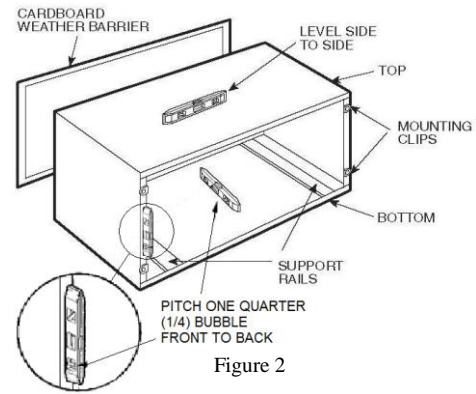

Figure 2
Step 3 Leveling Sleeve — Place level in locations shown in Figure 2. Sleeve must be mounted level side to side and a 1/4 bubble tilt front to back. This allows for proper condensate drainage.